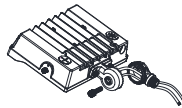

figure 1.2
Step 3: Pass the wire through from the other bracket and fix it with screws. (Watch out not to scratch the wire). (figure 1.2)